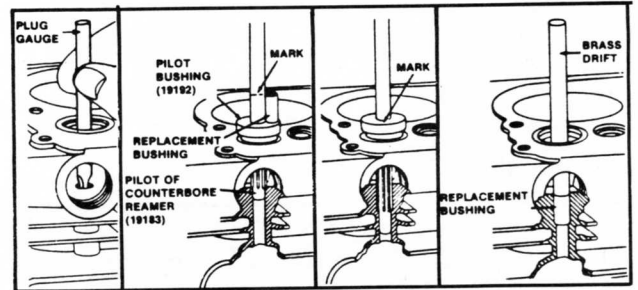

FIGURE 5-7
Put the flat end of the gauge No. 19151 into the valve guide. If the gauge can be put into the valve guide a distance of 5/16" (7.9 mm), the guide is worn. Replace the bushing in the valve guide. See figure 5-7.
- Ream the valve guide until the mark on the reamer shaft aligns with the top of the pilot bushing. See figure 5-7.